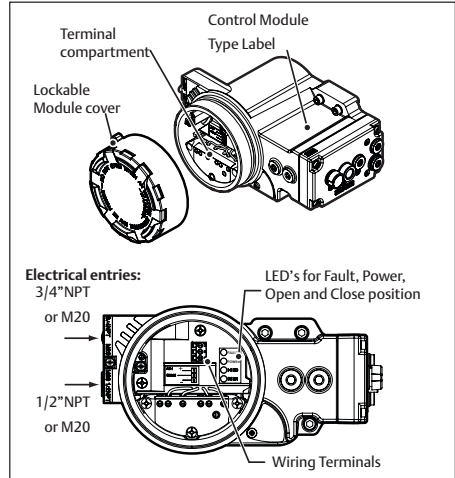

Fig. 4.2 Terminal connections behind cover.
- 1 Remove Control Module cover (see Figure 4.2).
- 4 Mount the function module cover to the housing (see Figure 4.2) or continue with chapter 5. Take care that the cover seal is in place to comply to dust and water tightness according to IP66 / NEMA4X.